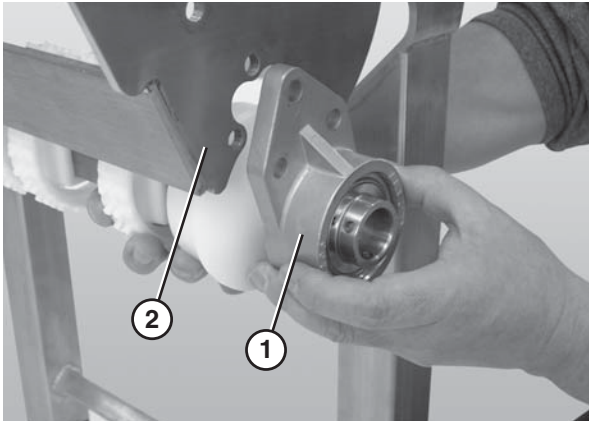

Figure 56
7. Disconnect the 3 hole flange bearing (Figure 56, item 1) from the nose bar drive weldment (Figure 56, item 2).